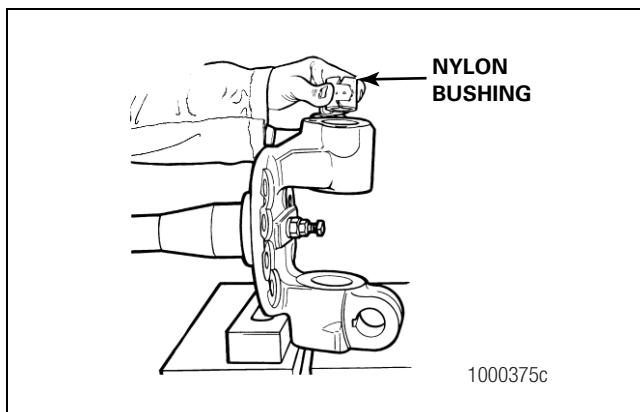

Figure 4.27
3. Remove the top and the bottom bushings from the knuckle bore. Figure 4.27.